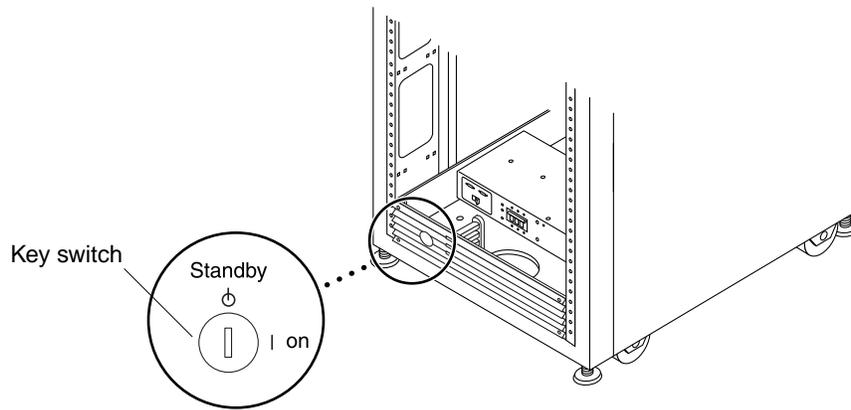

FIGURE 4-1 Location of Key Switch on Bottom Front Panel
1. Verify that the key switch located at the bottom front of the storage system is in the Standby position (FIGURE 4-1).
2. **Turn the key switch located at the front of the storage system(s) to the Standby position (FIGURE 4-1).**